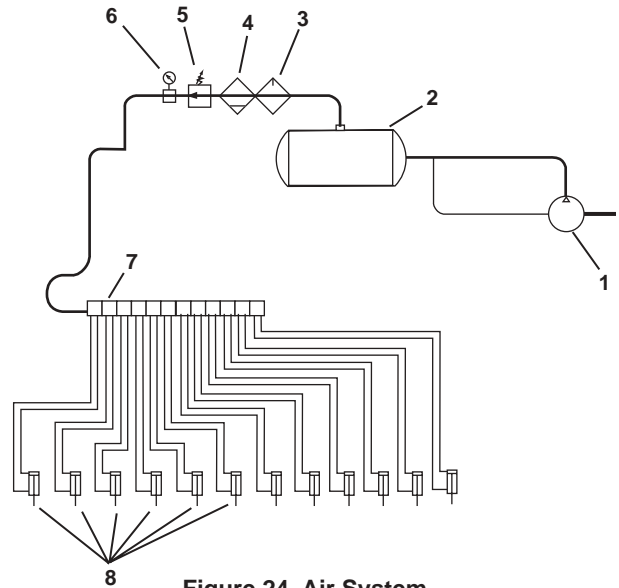

Figure 24. Air System
1. Set the main pressure regulator at 90 psi. (Fig 24)